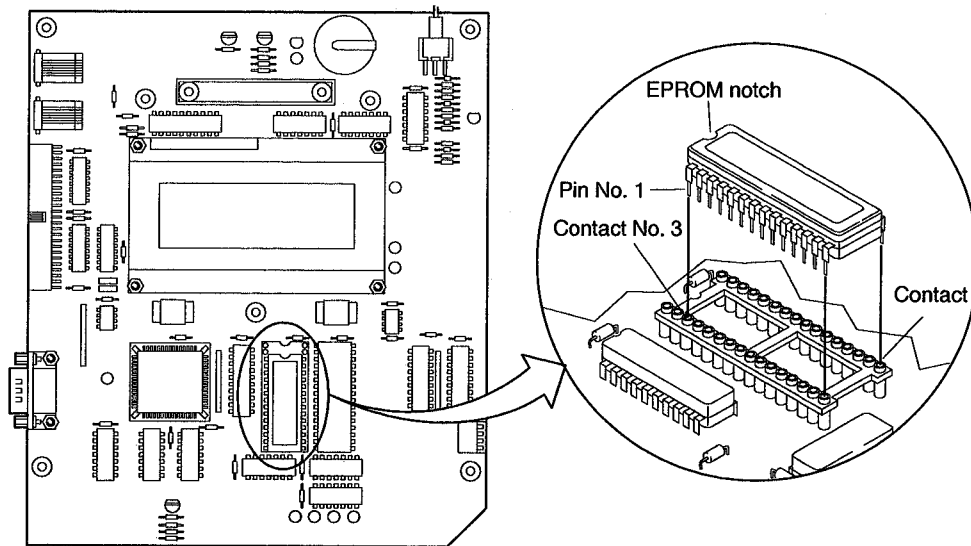

Figure B-1: EPROM Replacement
9. Using a 3/16" slotted screwdriver, carefully remove the existing EPROM. Note the orientation of the EPROM notch and the location within the socket. See Figure B-1 for EPROM location.